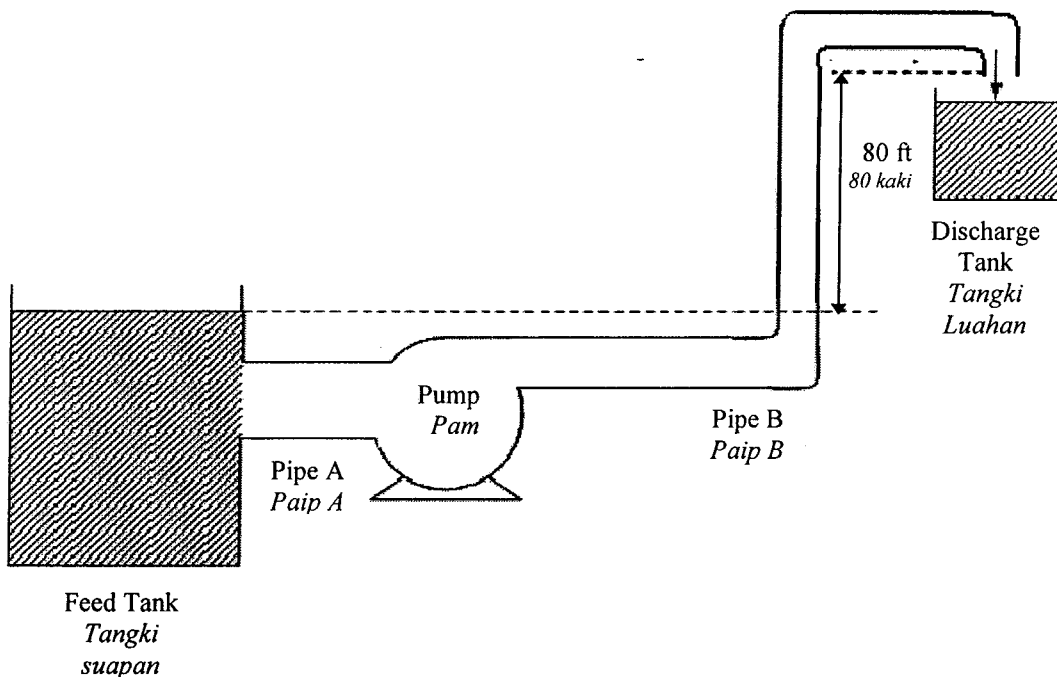

Figure Q. 7.
7. Figure Q.7 shows a pump pumping a fluid at a rate of  $0.2 \text{ ft}^3/\text{s}$  from an open tank having a large cross-sectional area. The discharge flow goes to an open overhead tank as shown in the figure. If the friction loss in the piping system are  $20 \text{ ft}\cdot\text{lb}_f/\text{lb}_m$  and the efficiency of the pump is 70%, calculate